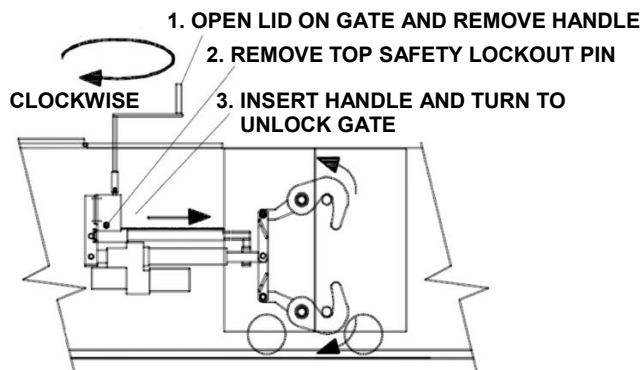

Figure 26
1) Unlock the gate (Figure 26).